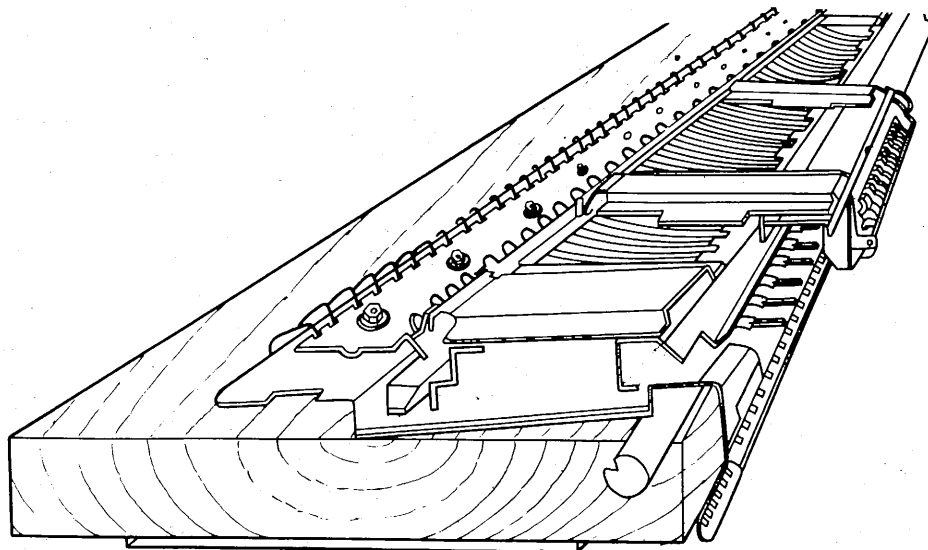

Fig. 54
(4) Turn over Needle Bed Body as shown in Fig. 54